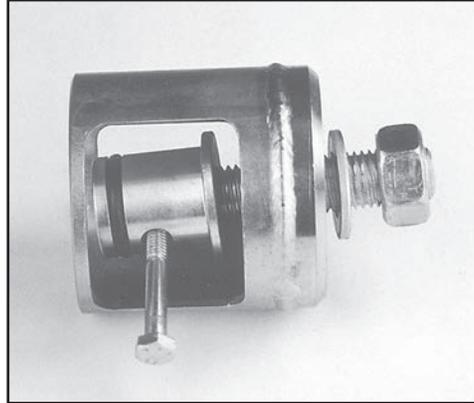

**FIG. 58: 2 SCREWS USED AS JACK SCREWS**
5. Use 2 socket head cap screws as jack screws to remove the whip hose (see Fig. 58).